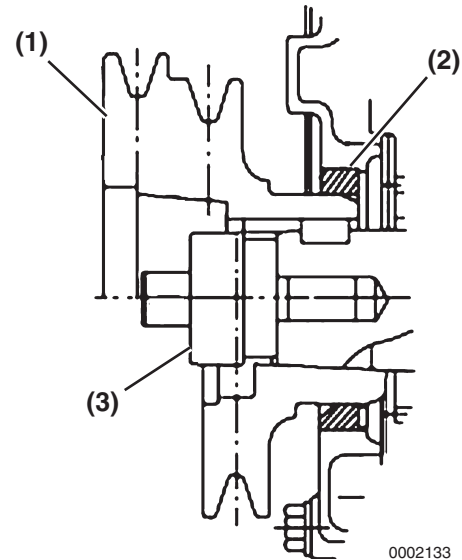

Figure 6-145
4TNV94L: Use the crankshaft pulley installation tool (**Figure 6-145, (3)**) when reinstalling the pulley (**Figure 6-145, (1)**). The tool will guide the pulley hub and protect the front seal (**Figure 6-145, (2)**) from damage.